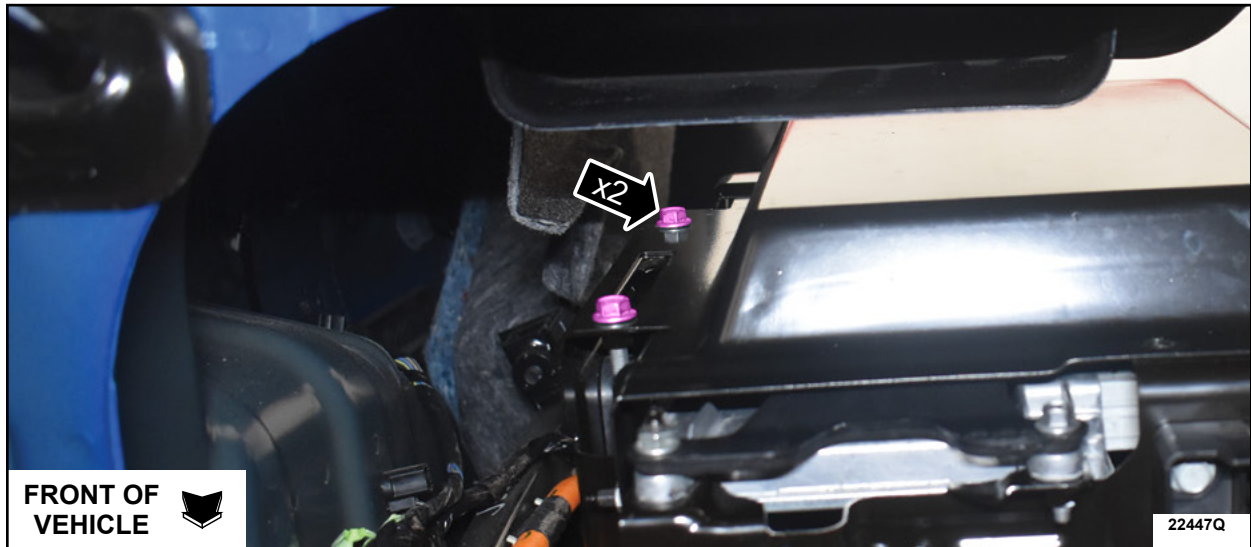

FIGURE 17
19. Tighten the two side bolts. See Figure 17.